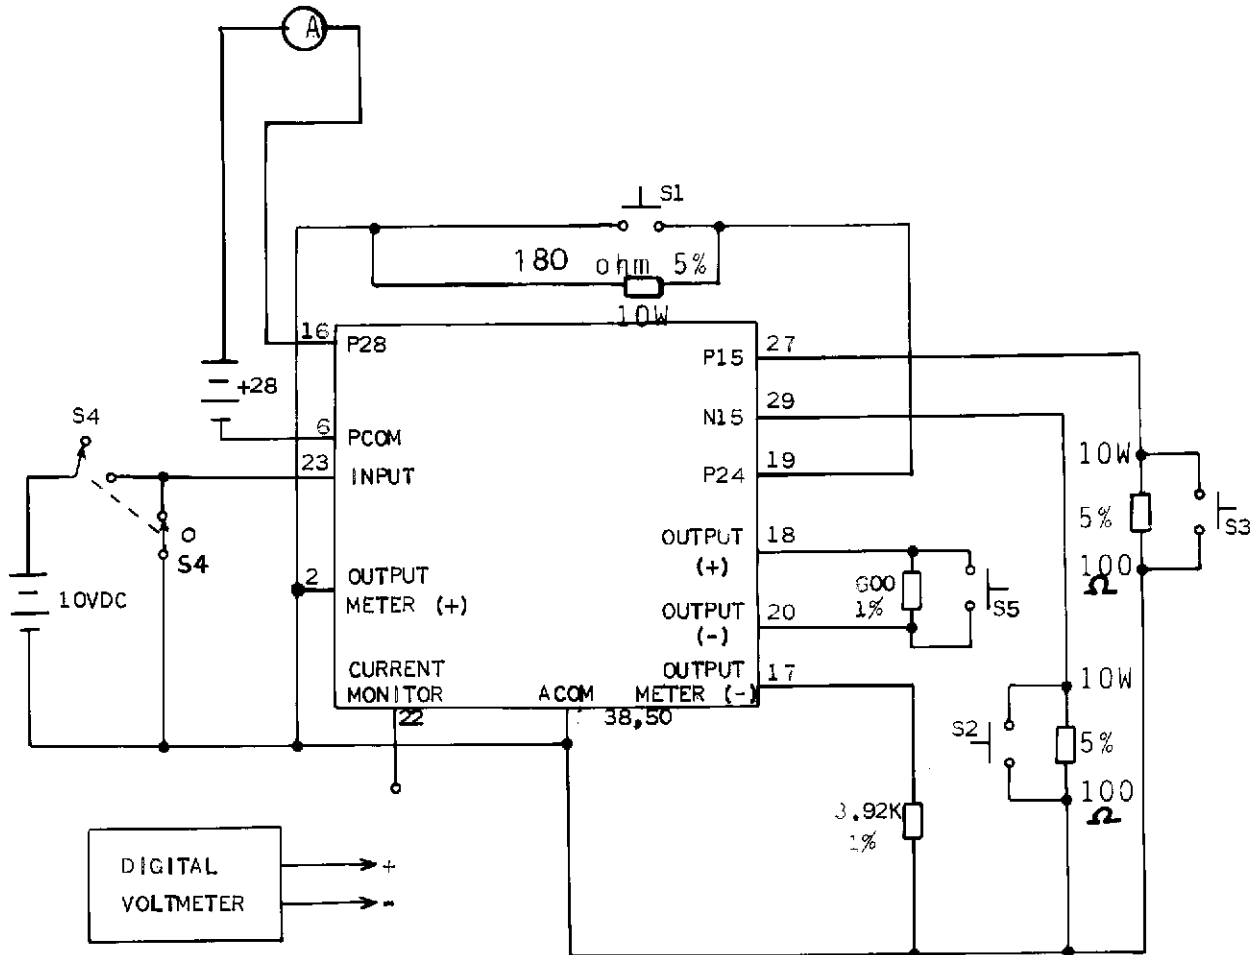

FIGURE 1 - TEST SET-UP
B. LOADS (CONNECT PER FIGURE 1)